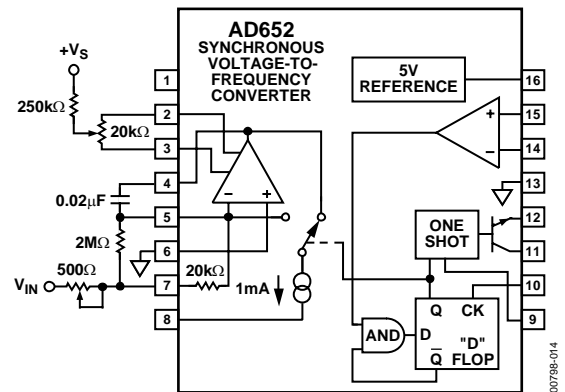
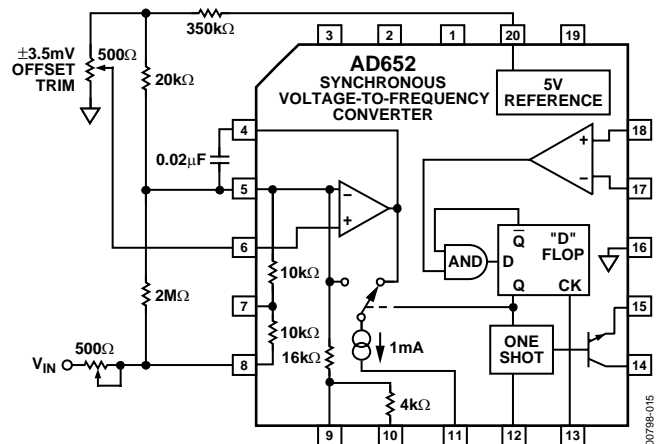

Figure 14. Cerdip Gain and Offset Trim
Figure 15. PLCC Gain and Offset Trim
The gain error of the AD652 is laser trimmed to within $\pm 0.5\%$. If higher accuracy is required, the internal 20 k Ω resistor must be shunted with a 2 M Ω resistor to produce a parallel equivalent that is 1% lower in value than the nominal 20 k Ω . Full-scale adjustment is then accomplished using a 500 Ω series trimmer. See Figure 14 and Figure 15. When negative input voltages are used, this 500 Ω trimmer is tied to ground and Pin 6 is the input pin.
The offset of the op amp may be trimmed to zero with the trim scheme shown in Figure 14 for the CERDIP package and Figure 15 for the PLCC package. One way of trimming the offset is by grounding Pin 7 (8) of the CERDIP (PLCC) device and observing the waveform at Pin 4. If the offset voltage of the op amp is positive, the integrator has saturated and the voltage is at the positive rail. If the offset voltage is negative, there is a small effective input current that causes the AD652 to oscillate; a sawtooth waveform is observed at Pin 4. The potentiometer should be adjusted until the downward slope of this sawtooth becomes very slow, down to a frequency of 1 Hz or less. In an analog-to-digital conversion application, an easier way to trim the offset is to apply a small input voltage, such as 0.01% of the full-scale voltage, and adjust the potentiometer until the correct digital output is reached.